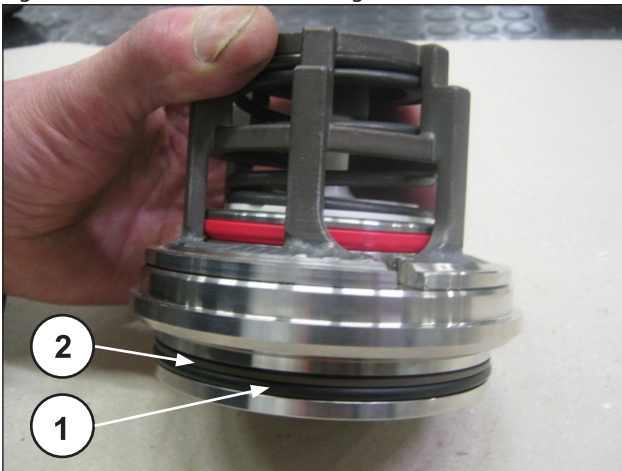

Fig. 184
Fit the O-ring (pos. ①, Fig. 184) and back-up ring (pos. ②, Fig. 184) on the outlet valve housing.